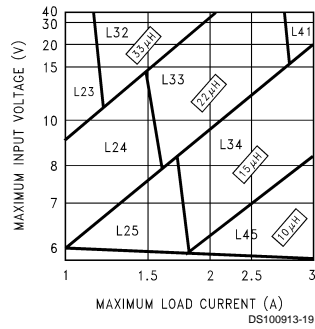
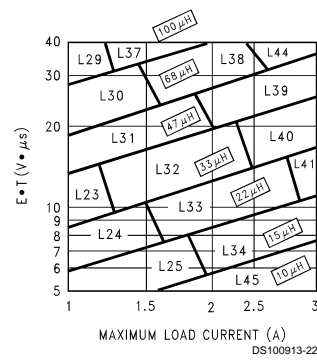

FIGURE 3. LM2673-3.3
FIGURE 6. LM2673-ADJ
Step 3: Determine the inductor required by using one of the four nomographs, *Figure 3* through *Figure 6*. Table 1 provides a specific manufacturer and part number for the inductor.
Step 5: Determine an input capacitor from Table 4 for fixed output voltage applications. Use Table 2 to find the specific capacitor type. For adjustable output circuits select a capacitor from Table 2 with a sufficient working voltage (WV) rating greater than $V_{in\ max}$, and an rms current rating greater than one-half the maximum load current (2 or more capacitors in parallel may be required).
Step 3: Use the nomograph for the 3.3V device, *Figure 3*. The intersection of the 16V horizontal line ($V_{in\ max}$) and the 2.5A vertical line ($I_{load\ max}$) indicates that L33, a 22 μ H inductor, is required.
Step 3: To use the nomograph for the adjustable device, *Figure 6*, requires a calculation of the inductor Volt•microsecond constant (E•T expressed in V• μ S) from the following formula:
Using *Figure 6*, the intersection of 27V• μ S horizontally and the 2A vertical line (I_{load} max) indicates that L38, a 68 μ H inductor, should be used.
Important Note: When using the adjustable device in low voltage applications (less than 3V output), if the nomograph, *Figure 6*, selects an inductance of 22 μ H or less, Table 6 does not provide an output capacitor solution. With these conditions the number of output capacitors required for stable operation becomes impractical. It is recommended to use either a 33 μ H or 47 μ H inductor and the output capacitors from Table 6.